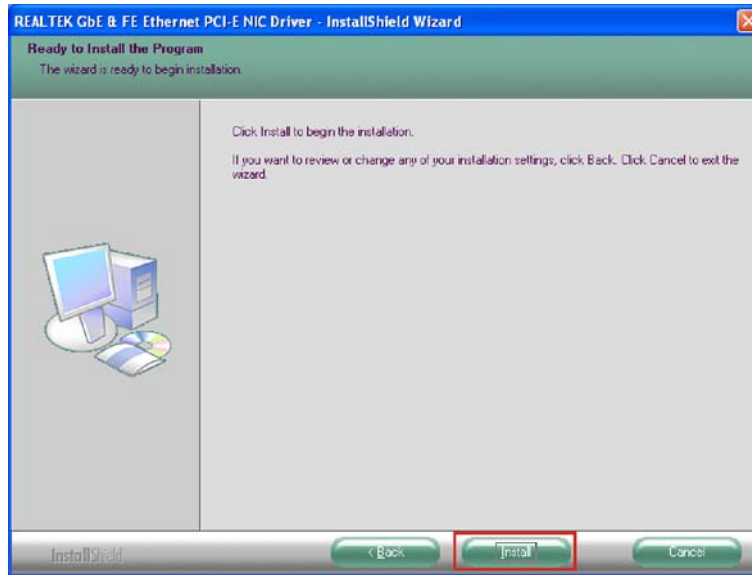

Figure 6-17: LAN Driver Welcome Screen
Step 5: The **Ready to Install** screen in Figure 6-17 appears.